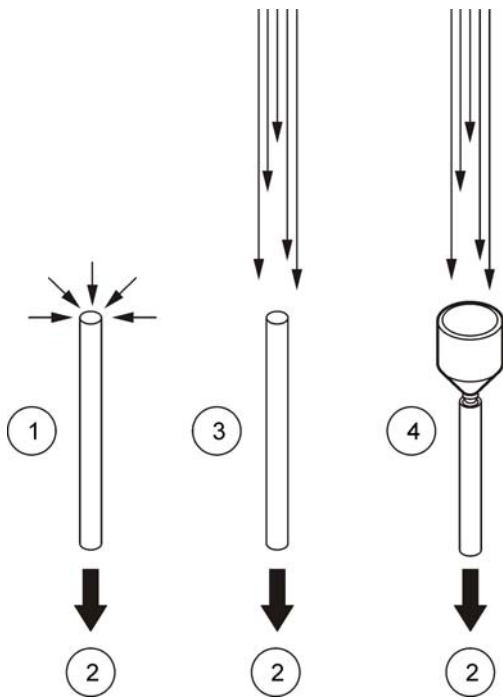

Figure 3 Isokinetic probe function
The isokinetic sampling probe is designed for accurate sampling in laminar flow environments. The velocity of air in the probe is close to that of a typical vertical or horizontal laminar flow environment such as a clean room or clean hood. The probe will match the vertical (or horizontal) flow speed of the air in order to collect representative samples of the cleanroom laminar flow for the particle counter. Refer to Figure 3 for a comparison of sampling with and without the isokinetic probe.
The position of an isokinetic probe is very important for count accuracy. Refer to the sampling guidelines and Figure 3 on page 9 before installation.
- Position the sampling probe to face the direction of flow (refer to Figure 3 on page 9).